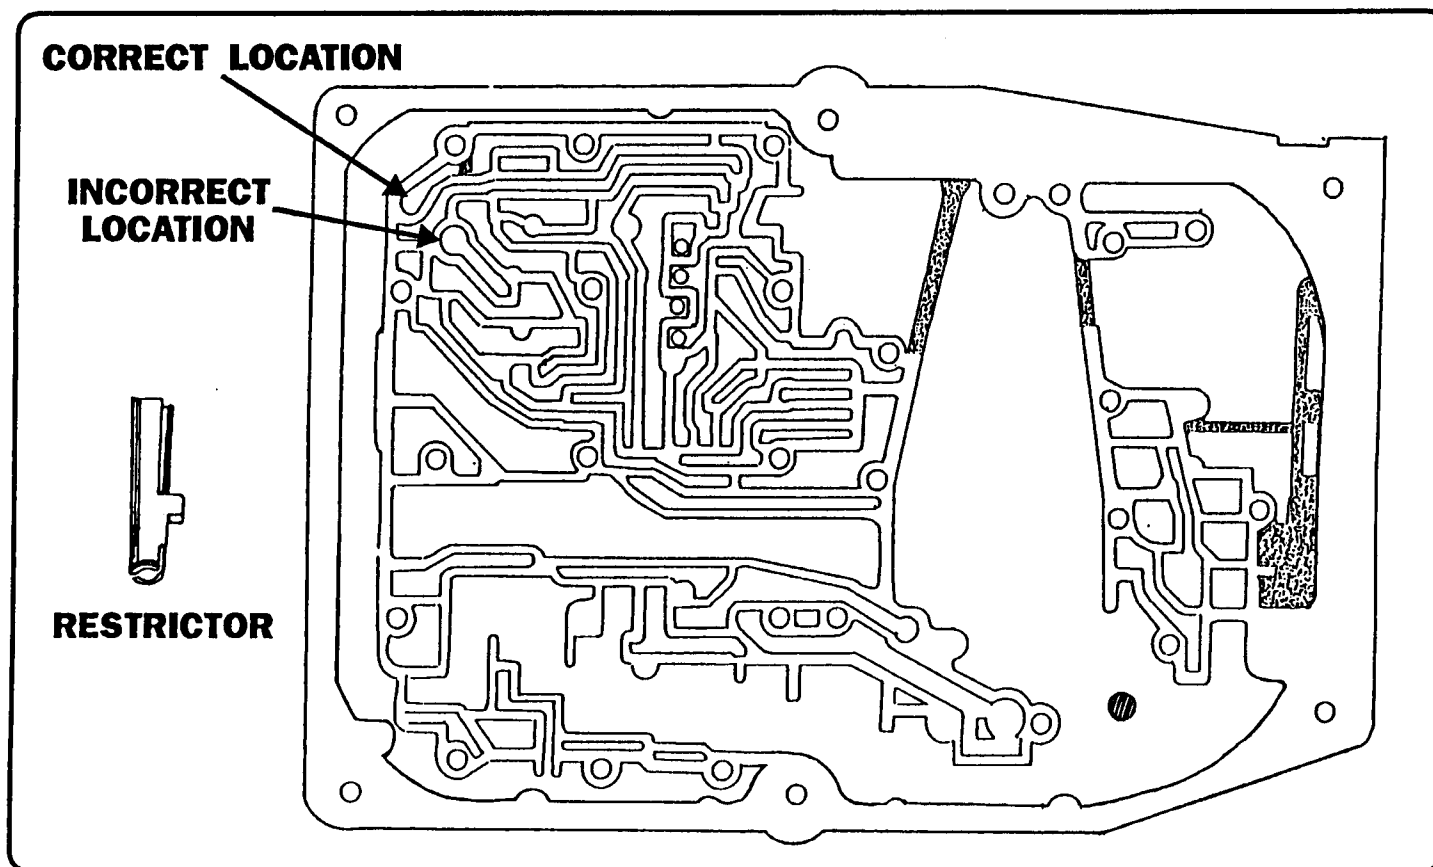

Figure 1
The TV valve line-up is different in the Mercedes models 420 SEL, 560 SEL and SL models. This change was made the the 1986 model year. Figure 1 illustrates the valve line-up.
CORRECTION:Make a 30 degree chamfer around the out diameter of the top (outside land) on the piston. The servo cover side, as shown in Figure 1.
CORRECTION: Install the Mercedes tapered oil restrictor Part no. 123 277 0319. into the transmission case as shown in Figure 1. Note that the restrictor goes in tapered end first and fits snug in the case.
- c. The gasket on the large intermediate plate shows severe swelling or a green slimy coating (upper right arrow in Figure 1).
- d. The intermediate plate shows signs of corrosion under the gasket (lower left arrow in Figure 1).
(Figure 1)
We have illustrated the separator plate ID in Figure 1 for both the regular 722.3 valve body and the 722.4 which is the 190E plate. You will note that the "regular" six bolt pan plate has a large opening where as the 190E opening is split. The arrows point to the locations on the plate. The regular plate (722.3) has a late and early version. The early will NOT fit the late valve body but the late will fit the early. Note the difference. The late has a square hole instead of the two orifices in the early. This is the position of the valve body screen.